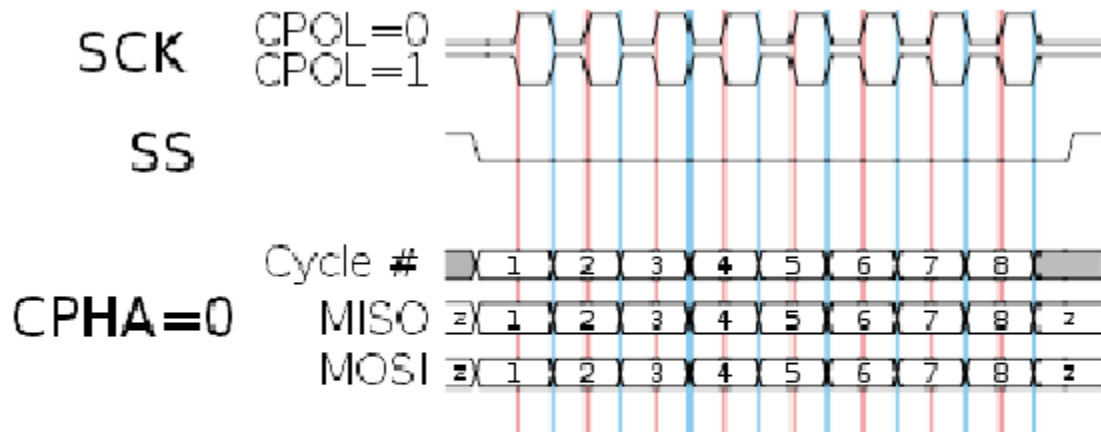

Figure 2-1. SPI Mode 0 Timing Diagram.
- ✓ Uses SPI mode 0 (CPOL=0, CPHA=0) as Figure 2-1.